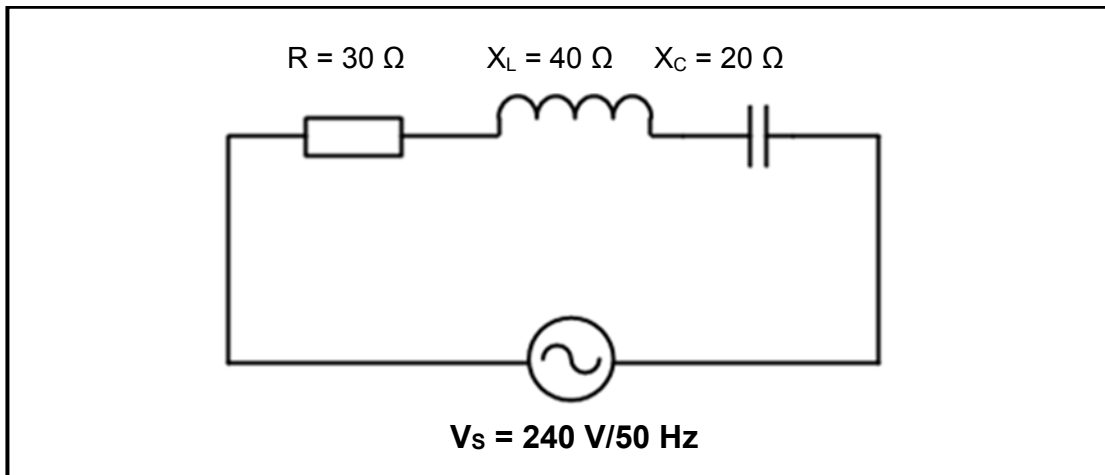

FIGURE 5.1: RLC SERIES CIRCUIT
5.4 The series circuit in Figure 5.1 consists of a capacitor with a capacitive reactance of 20 Ω , an inductor with an inductive reactance of 40 Ω and a resistor with a resistance of 30 Ω connected across a 240 V/50 HZ supply.